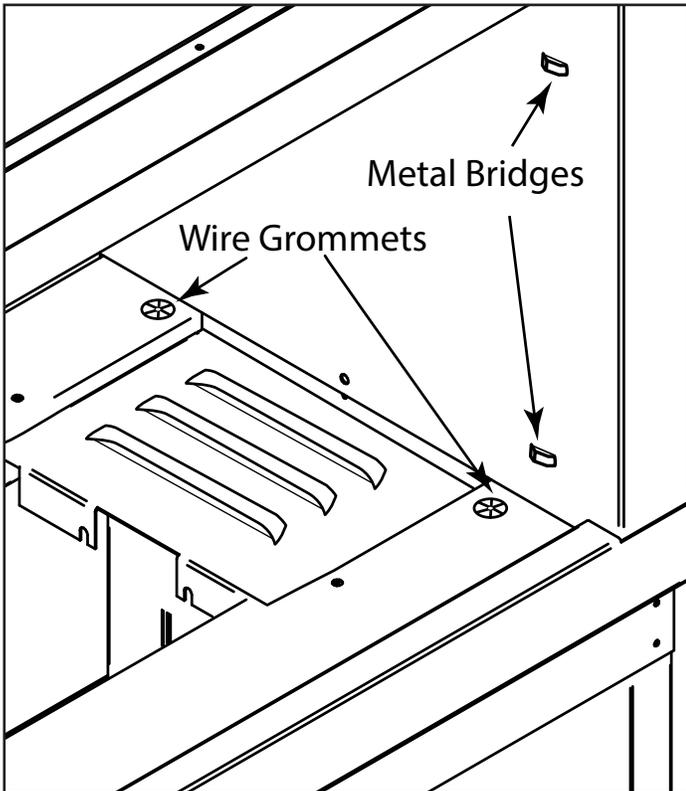

Figure 17 - Locating wire grommets
**Step 3:** Locate the wire grommets inside the firebox. See Figure 17. Directly above them will be a series of metal bridges to install the glass panel clips. Remove the glass panel clips from the glass panel packaging. **CAUTION:** The metal clips may have sharp edges, handle with care.